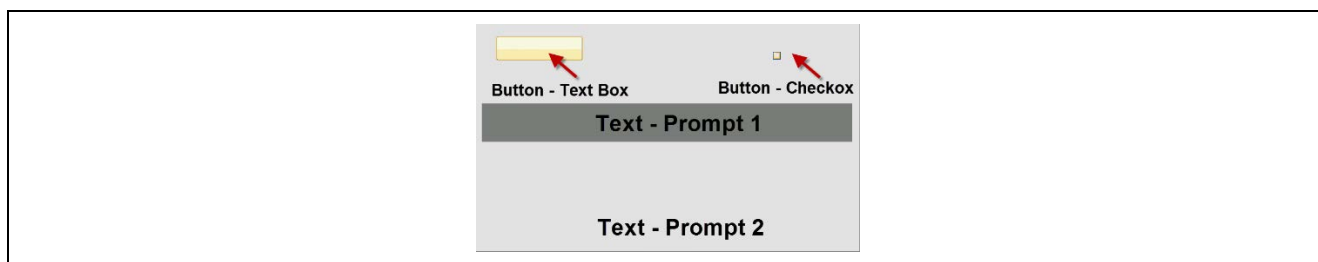

Figure 106. Window1
- A. Figure 106 shows **Window1**. In this window are four elements: